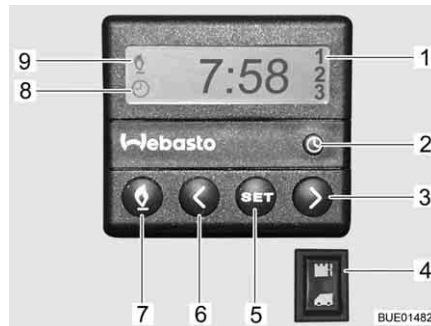

Fig. 207 Operating unit for independent vehicle heater
- Press the button (Fig. 207,7). The heating mode is displayed by the symbol (Fig. 207,9). The fan will only be switched on when there is a coolant temperature of 30 °C.
- Press the button (Fig. 207,7). The symbol (Fig. 207,9) goes off.
- Press the lower part of the switch (Fig. 207,4). Engine is preheated. The fan is switched on immediately.
- Press the upper part of the switch (Fig. 207,4). Engine stays cold.
- Press the button (Fig. 207,2). The time setting is displayed by the symbol (Fig. 207,8).
- Set the time with the buttons (Fig. 207,3 and 6).
- Press the button (Fig. 207,5).
- Set the switching on time within ten seconds, with the buttons (Fig. 207,3 and 6).
- Keep pressing the button (Fig. 207,5) until the selected programme number (Fig. 207,1) appears in the display.